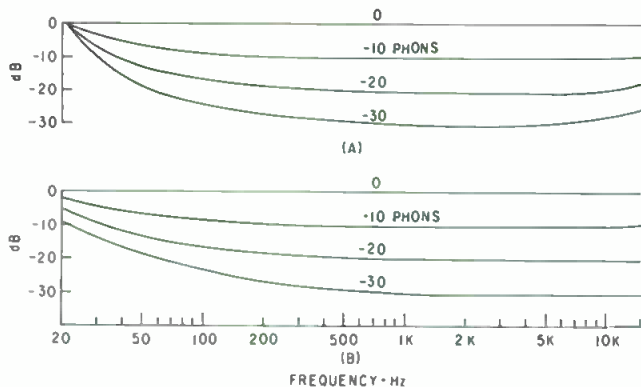

Figure 5. As Figure 4, with modifications described in the text.
A simple loudness compensator will have only one frequency response at any loudness setting, so we must look for a compromise among these groups of curves. It seems reasonable to neglect the dynamic extremes (100 and 40 dB), as these account for only a small fraction of the total music, and to seek a frequency response intermediate to the 60 and 80 dB curves in FIGURE 4. Doing this, we end up with the curves of FIGURE 5(A) which have been redrawn as frequency responses at various loudness-control settings.
It is questionable whether these curves are desirable in practice. One could reasonably argue that it is not worth striving to maintain equal-loudness or even audibility at frequencies as low as 20 Hz. In fact few recordings have much below about 35 or 40 Hz and those that do, being mainly classical organ music, are likely to be listened to at concert-hall levels. Perhaps, therefore, a further compromise is in order, namely, a straightening of the curves at the very lowest frequencies. Curves modified in this manner are shown in FIGURE 5(B).
Having simplified and rationalized the arguments to the point of having some curves which could be implemented, let us briefly ponder the matter of whether it was justified to use the pure-tone equal-loudness contours in this application. Certainly, the octave-band-noise contours shown in FIGURE 3 are different in several respects. However, it turns out that most of the differences don't matter in this instance. Repeating the above exercise for an 80 dB sound pressure level flat-spectrum sound using the contours of FIGURE 3 results in frequency response curves, shown in FIGURE 6(A), which are almost identical to the curves of FIGURE 5.
In brief, there is reasonable agreement among results obtained using recent pure tone and octave band loudness data. Inasmuch as one dares to be definite, the curves of Figure 5(B) would seem to be a tolerable compromise between the various conflicting demands of loudness compensation for the kind of sound assumed for this exercise. These curves would be slightly modified if they were developed for sounds of different spectral and dynamic properties.